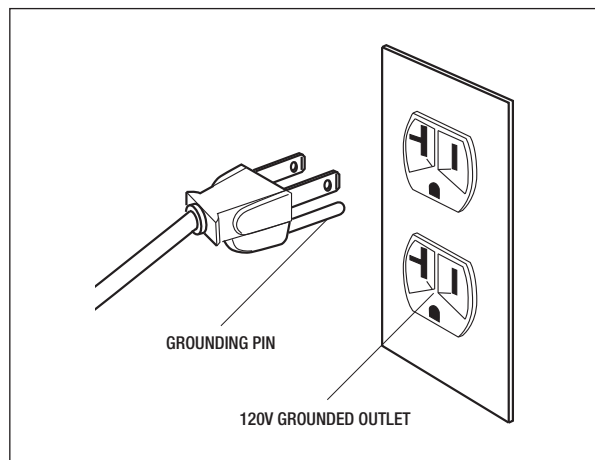

Figure 3 - Grounding Method
In the event of a malfunction or breakdown, grounding provides a path of least resistance for electrical current to reduce the risk of electric shock. This compressor is equipped with an electric cord having an equipment-grounding conductor and a grounding plug, shown in Figure 3. The plug must be plugged into a matching outlet that is properly installed and grounded in accordance with all local codes and ordinances.
1. This product is for use on a nominal 120 v circuit. It must be grounded. In the event of an electric short circuit, grounding reduces the risk of electrical shock by providing an escape wire for the electric current. Unit is equipped with a cord that has a grounding prong. It will fit one of the common outlet types shown in Figure 3. If plug will not fit in the desired outlet, have the outlet replaced by a qualified electrician.
1. If the plug on the electrical cord of the unit is unfamiliar to you or will not fit your particular receptacle, Figure 3 will help you understand why by illustrating the different plugs and the voltages they are to be used with.
3. This product is for use on a nominal 120 volt circuit and has a grounding plug that looks like the plug illustrated in Figure 3.